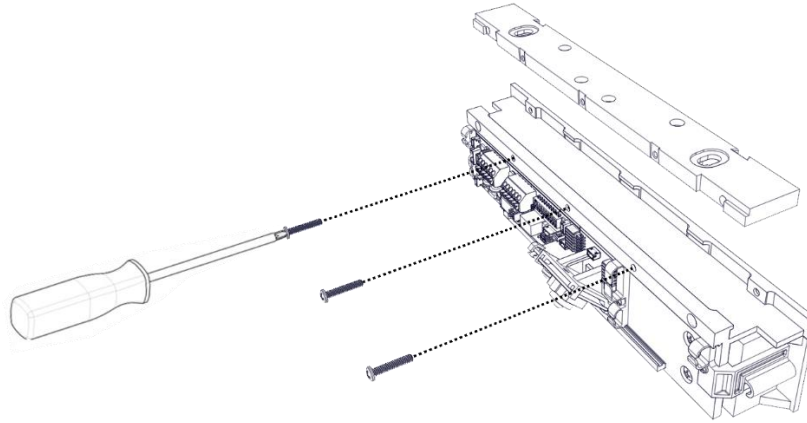

Figure 3. Removing the Securing Screws
2. REMOVE the three (3) screws securing the lock to the mounting bracket and SLIDE the bracket from the top of the lock chassis (see Figure 3, "Removing the Securing Screws").